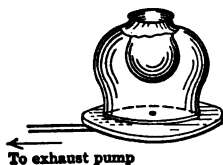

FIG. 33. — Air exerts pressure.
44. Air Exerts Pressure. If we tie a thin rubber membrane over a bladder glass, as in Fig. 33, and then exhaust the air by means of an air pump, the rubber is forced down into the glass, and it will probably burst. Exhausting the air removes the *upward* air pressure, leaving an unbalanced *downward* pressure.